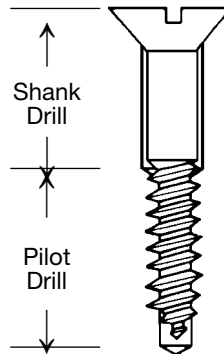

Fig. 12
1. Drill pilot and shank clearance holes. See chart Fig. 12.